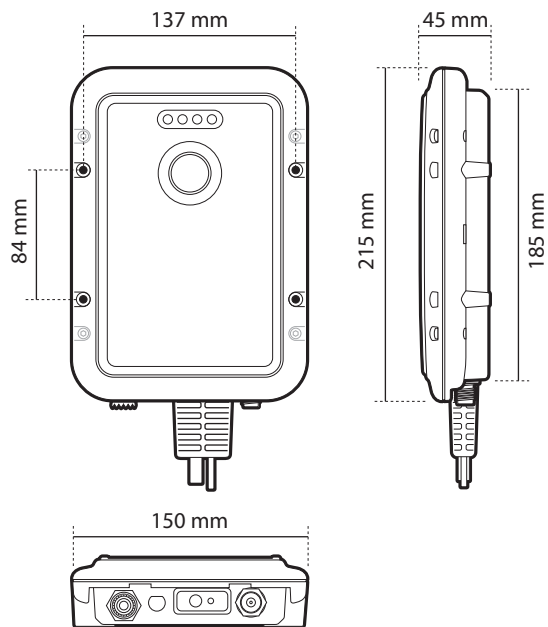

Figure 5 Mariner X2 dimensions
- There should be adequate space around the Mariner X2 for routing of cables. See Figure 5 for details of the Mariner X2 dimensions.